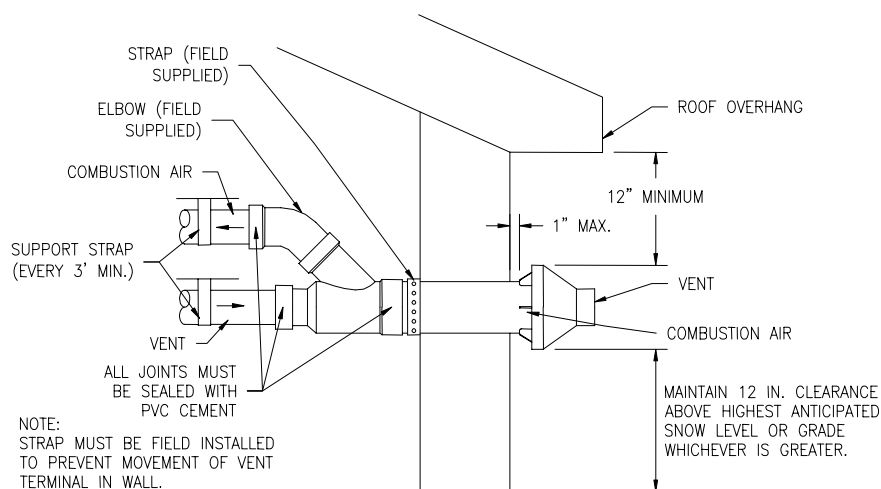

Figure 23. Concentric Vent Side Wall Attachment
7. Secure assembly to structure as shown in Figure 23. Ensure clearances as shown in Figure 23.
8. Cement heater combustion-air and vent pipes to concentric Y fitting termination assembly. See Figure 23 for proper pipe attachment.